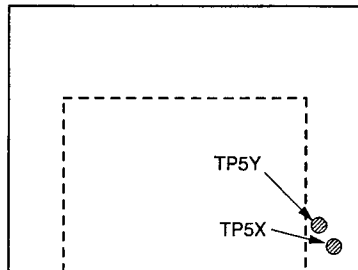

Fig.1
3. Short TP5X and TP5Y shown in Fig.1
1. Short TP5T and TP5X shown in Fig.1
5. Open TP5T and TP5X shown in Fig.1